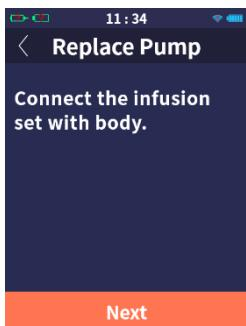

Figure 11.7
(6) Connect the infusion set with the body (as shown in Figure 11.7). When completed, click "Next".